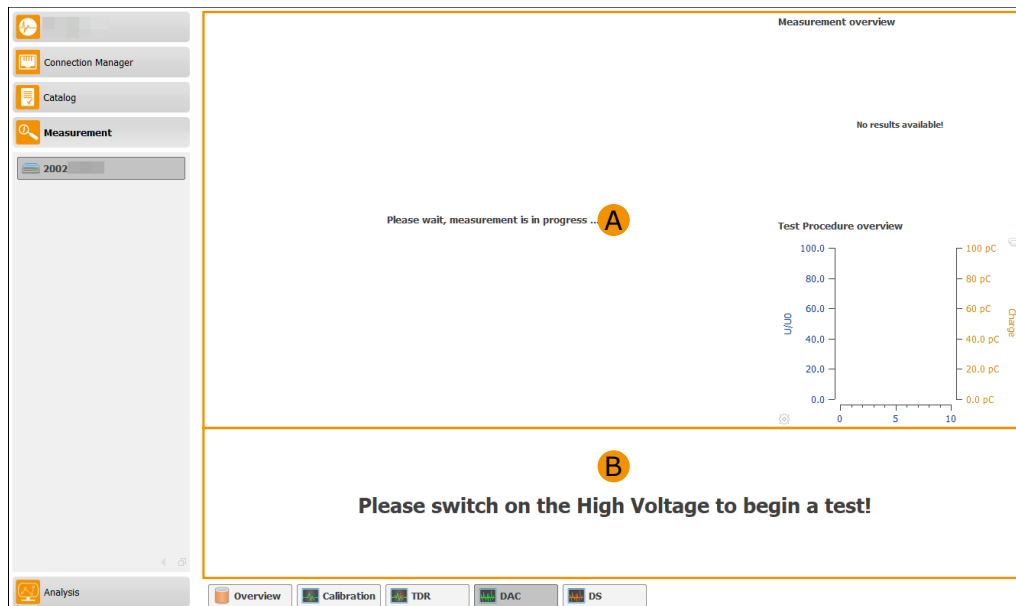
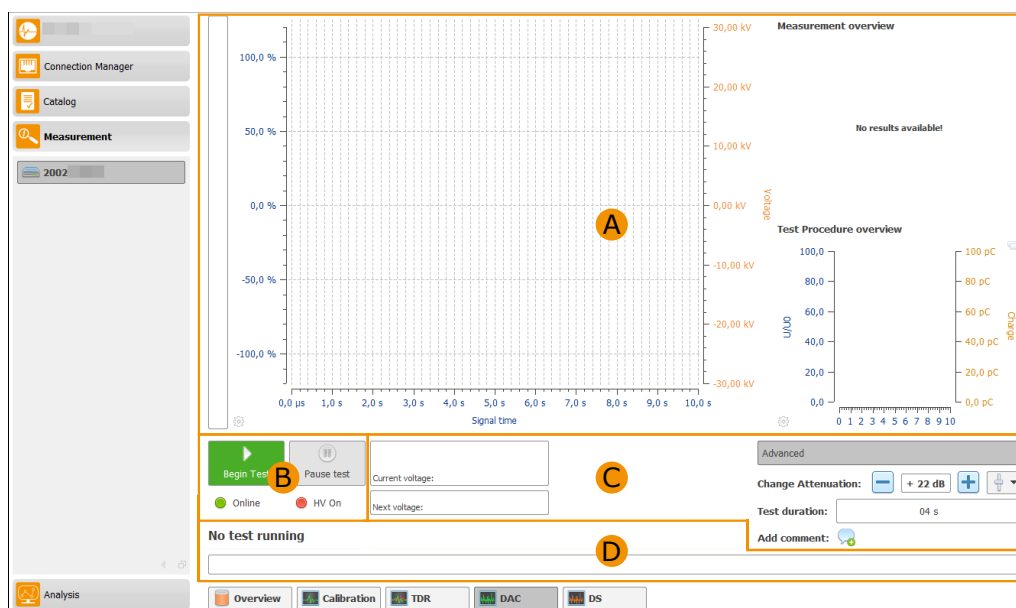

Figure 7.14: DAC measurement overview high voltage off (simple mode)
Figure 7.15: DAC measurement overview high voltage on (simple mode)
This chapter describes the UI elements that are available for a DAC measurement in Simple mode. Figure 7.14 shows the general structure of the measurement surface if now high voltage is switched on. In this case the **B** area displays the information for switching on the high voltage before a test could be started. After switching on the high voltage the user interface changes the **B** area like shown in Figure 7.15. The area **B** contains now three part which are available during the measurement. Now the **B** area contains buttons available for performing the test and showing the current status for high voltage. **C** is used to display current data and the advanced options. In the area **D** the current progress and the status of the measurement is displayed.
**A** in Figure 7.15 displays the measurement results of the last shot. The following elements (cf. Table 7.5) are available:
**B** in Figure 7.15 shows elements that are needed to perform a DAC measurement. Table 7.6 describes the elements.
in Figure 7.15 contains element for setting the device and displays measurement values. Table 7.7 describes the elements.
in Figure 7.15 depicted the status elements for the simple measurement mode. The upper line contains the information in which step the software is currently perform. The lower progress bar depicted the current progress of the procedure.